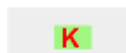

Figure 17. Enabled gain selector
- Gain selector. It is located in the central upper part of the zone. To enable or disable the selector, the user has to click on it. When the gain selector is enabled, it is enclosed within a light green square (see Figure 17), and the user can configure the gain of the frequency response. To increase (or decrease) the gain, the user has to drag vertically upward (or downward) the Bode magnitude curve, the polar curve, or the Nichols curve. Once the user has finished configuring the gain, he/she has to click on the gain selector to disable it.